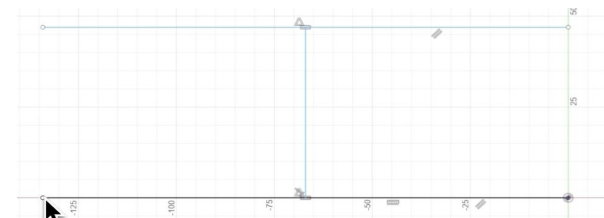

Figure 1.8
- **Perpendicular:** Forces two lines to meet at 90 degrees. (see Figure 1.8)